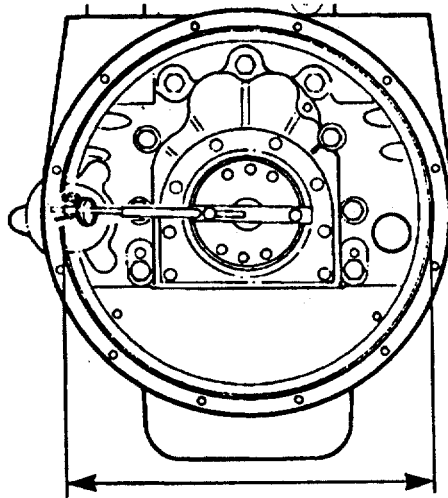

FIGURE 3-91. Housing Bore Diameter.
- (i) The maximum allowable total indicator reading (TIR) depends on the diameter of the housing bore (FIGURE 3-91) .